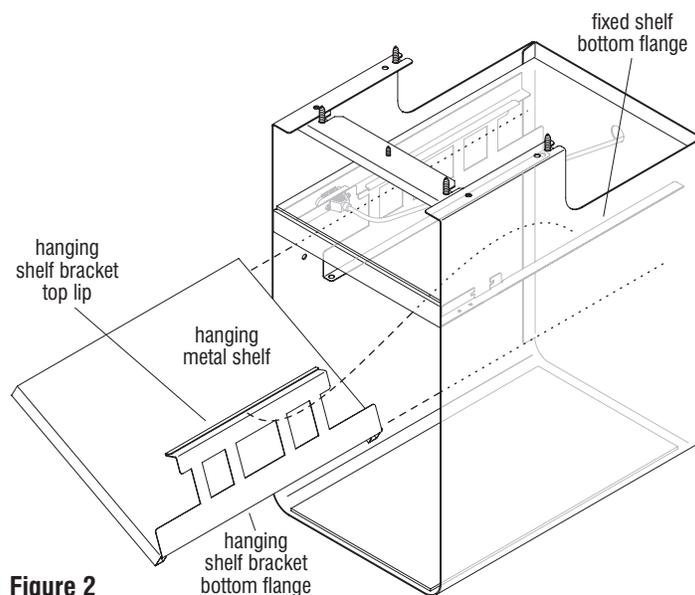

Figure 2
3. Locate the second hanging shelf bracket and insert the bottom flange of the bracket to the underside of the hanging shelf as illustrated in Figure 2.